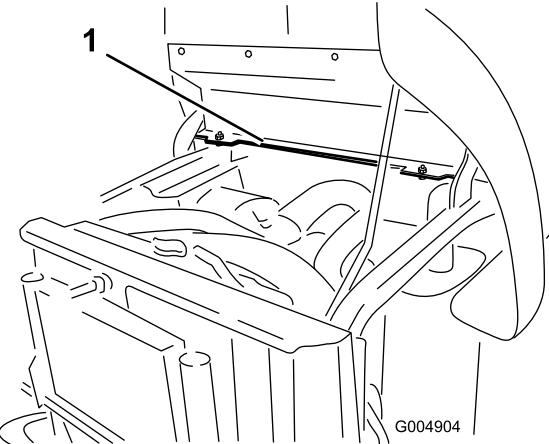

Figure 14
- Locate the 2 mounting holes in the left side of the rear frame mount (Figure 14).